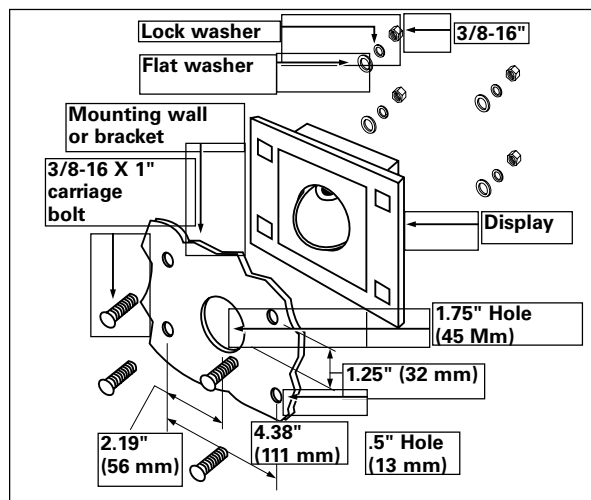

Figure 6. Installation of the FCI display on the mounting wall
4. **Mount the display to the wall or the sill of the transformer cabinet using the four carriage bolts, washers and nuts provided.** (Refer to Figure 6.)